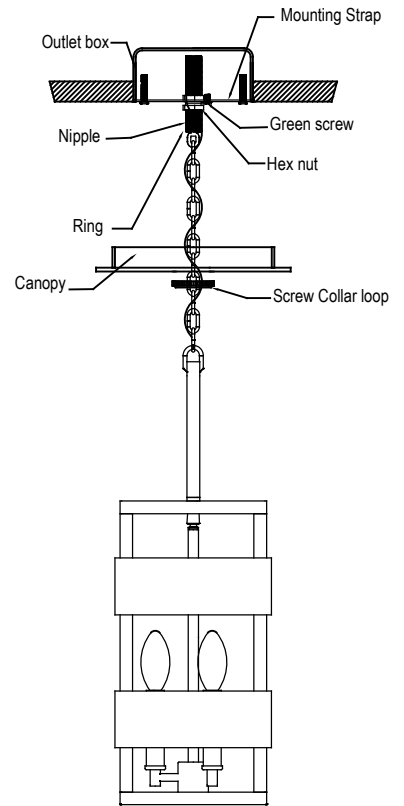

FIGURE-02
- Open the end links of the chain and attach the chain to the screw collar loop. Hang the fixture on the chain at the desired height. Remove the excess chain close all links. Unscrew the threaded ring from the screw collar loop. Allow the ring and canopy to slide down the chain to the top of the fixture. See Figure-02.